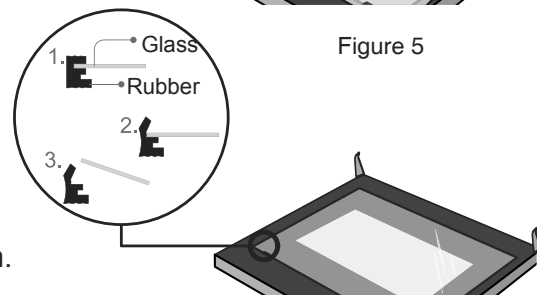

Figure 6
6. After pulling out the inner glass, please take out the middle glass layer as shown in Figure 6.